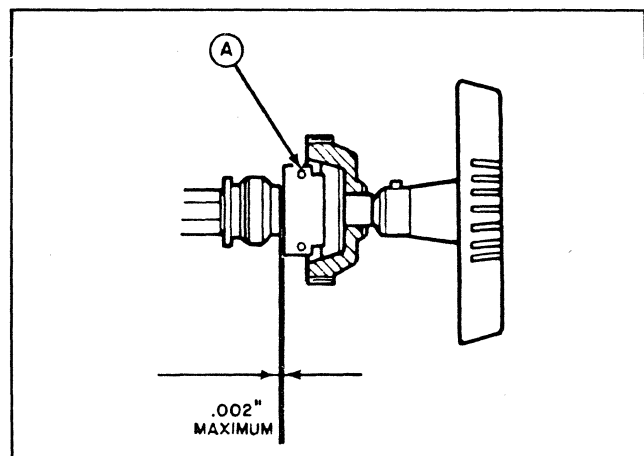

Figure 3-10. Platen Knob End Play Adjustment
3.4.1.2.4 Platen Knob End Play. Refer to Figure 3-10. End play should be .002 in. (.05 mm) maximum, as shown. Adjust for proper clearance by loosening the setscrews in the platen release gear hub (A) and moving the hub. Retighten the setscrews.